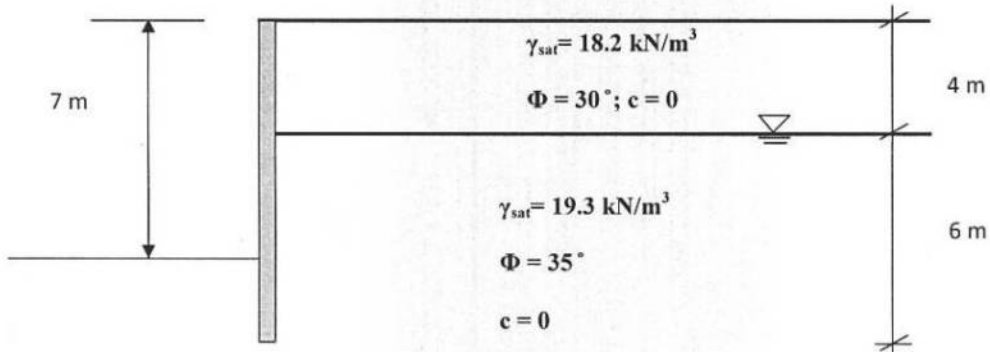

Figure 2
9. Find the magnitude and location of the active force (per unit width) on the retaining wall, shown in Figure 2, for the Rankine state.